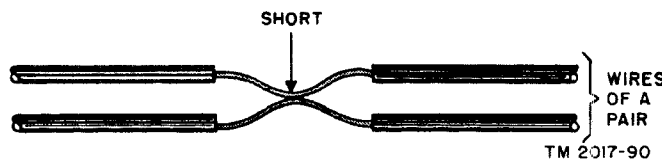

Figure 29. Simplified drawing of shorted pair.
- (1) If the needle moves to 0 (or very close to 0) on the OHMS scale of the meter, the wires of the pair are shorted together. *A short usually is caused by worn or crushed insulation which allows the wires of a pair to touch each other (fig. 29).*
- (2) If the needle does not move close to 0 on the OHMS scale of the meter, the wires of the pair are not shorted together.